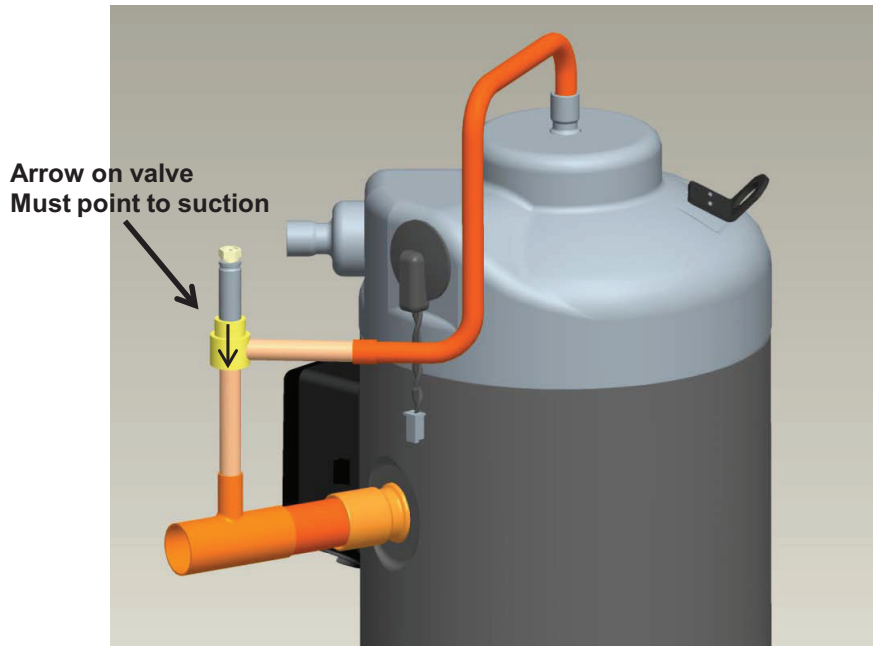

Figure 8
4. If the compressor has an external modulation valve and tubing (3 to 7.5 ton only) refer to **Figure 8** for the correct valve orientation and position. Wrap a wet rag around the valve and complete the assembly by brazing the valve and tubing into place.
The external modulation valve is purchased and shipped separately from the 3 to 7.5 ton digital scroll. Therefore, assembly is required in the OEM manufacturing plant. **Figure 8** illustrates the correct position and orientation of the modulation valve. Please note the direction of the arrow on the valve, it must point to suction.
The modulation valve and solenoid coil are engineered for specific use with the digital scroll. Don't attempt to substitute replacement solenoid coils that are not of the correct part number. The 3 to 7.5 ton modulation valves must be installed in the correct orientation and with the arrow on the valve pointing to suction. Installing a modulation valve in a horizontal position, or with the suction and discharge connections reversed, can result in sporadic operation of the modulation valve. See **Figure 8** for an illustration of the correct valve location and orientation.
Refer to Figure 8 for the correct modulation tubing configuration.**